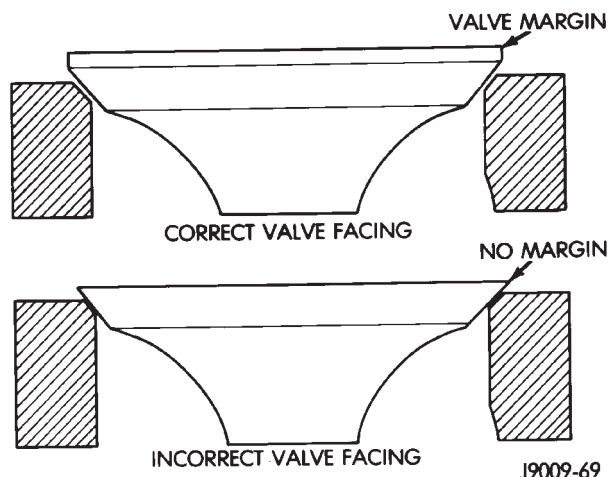

Fig. 62 Valve Facing Margin
(1) Use a valve refacing machine to reface the intake and exhaust valves to the specified angle.
(2) After refacing, a margin of at least 0.787 mm (0.031 inch) must remain (Fig. 62). If the margin is less than 0.787 mm (0.031 inch), the valve must be replaced.